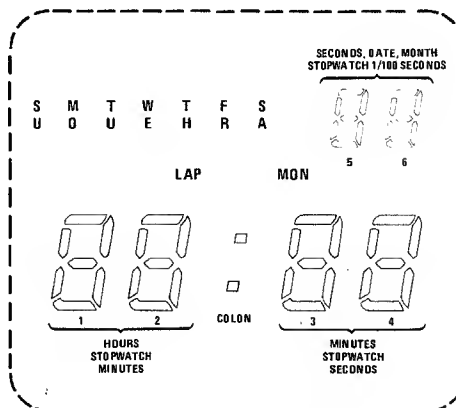

FIGURE 5. Display Format
**Watch Mode:** When used as a watch, the MM5890 has two display modes. The first mode displays the HOUR in digit positions 1 and 2, the MINUTE in digit positions 3 and 4, the DATE in digit positions 5 and 6 and the DAY-OF-THE-WEEK (Figure 5). The second mode will display SECONDS in digit positions 5 and 6 instead of the DATE. Depressing the Set/Display switch will change the watch from one mode to the other.
Depressing the Set switch will activate the Split Time mode. In this mode the watch will freeze the time showing on the display at the instant the Set switch is depressed. The stopwatch continues counting and the colon will begin blinking at a 1 Hz rate to indicate the continuing count. Depressing the Start/Stop switch will stop or start the stopwatch counters. The colon will remain "ON" in the Split Time mode if the stopwatch is not counting. The Split indicator (refer to *Figure 5*) will be "ON" during the Split Time mode. Depressing the Set switch while the watch is in the Split Time mode will return the accumulated time in the stopwatch to the display and the Split indicator will turn "OFF."